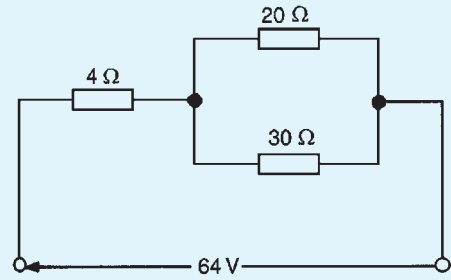

Figure 5.31
7. (a) Calculate the current flowing in the  $30\ \Omega$  resistor shown in Fig. 5.31 (b) What additional value of resistance would have to be placed in parallel with the  $20\ \Omega$  and  $30\ \Omega$  resistors to change the supply current to 8 A, the supply voltage remaining constant. [(a) 1.6 A (b) 6  $\Omega$ ]